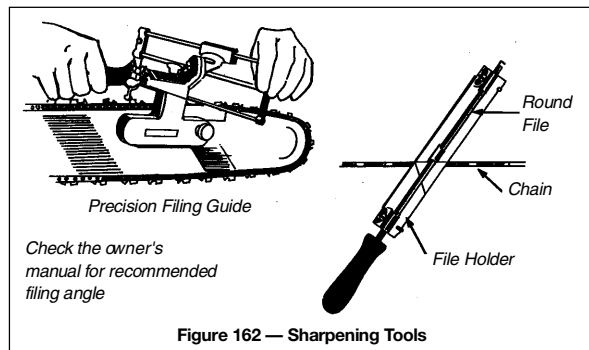

Figure 162 — Sharpening Tools
- A round file used in combination with a file holder or, better yet, a precision filing guide will give the best results (Figure 162).